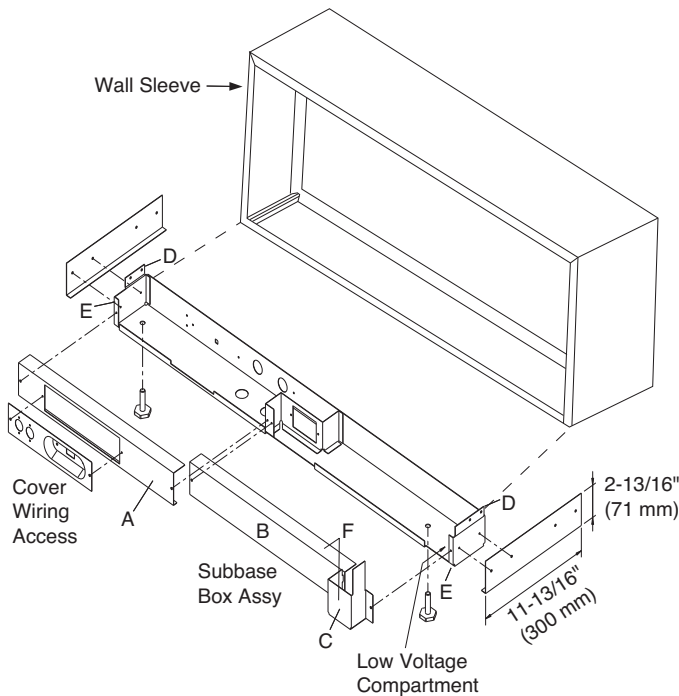

Figure 58 - Dimensions
3. Align the back edge of the flange on cover A (Figure 57) to front of the wall sleeve flange. (Figure 58)